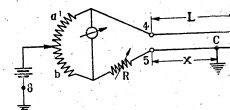

FIG 7
- (1) Join the faulty and good wires at the distant end of the cable; connect the faulty wire to X_2 and the good wire to X_1 . Connect post 8 to ground. Set lever switch at VAR. Set ratio plug A at 0.1 or 0.01 (Fig 7) and vary rheostat R to balance the bridge.